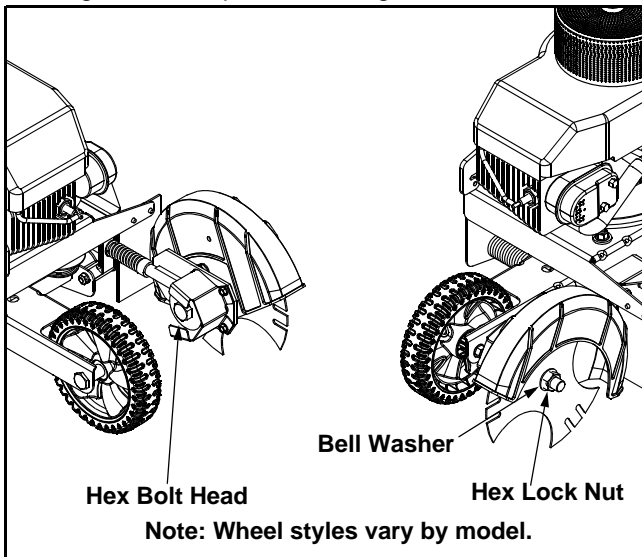

Figure 10
- Use two wrenches (one wrench to prevent the hex bolt head from spinning and the other to unthread the hex lock nut) to remove the hex lock nut and bell washer that secure the edger blade, leaving the edger blade in place. See Figure 10.
- Use two wrenches (one wrench to prevent the hex bolt head from spinning and the other to remove the hex lock nut and bell washer) to remove the edger blade. Refer to Figure 10.